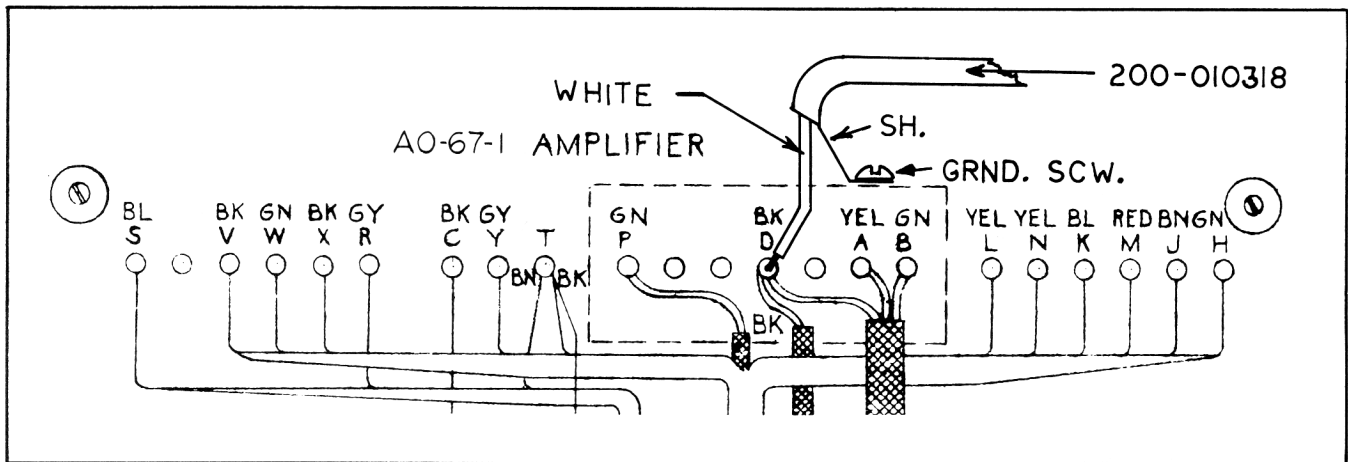

FIGURE 3-3.
- d. Solder other ends of 200-010318 to amplifier terminals as shown in Figure 3-3.